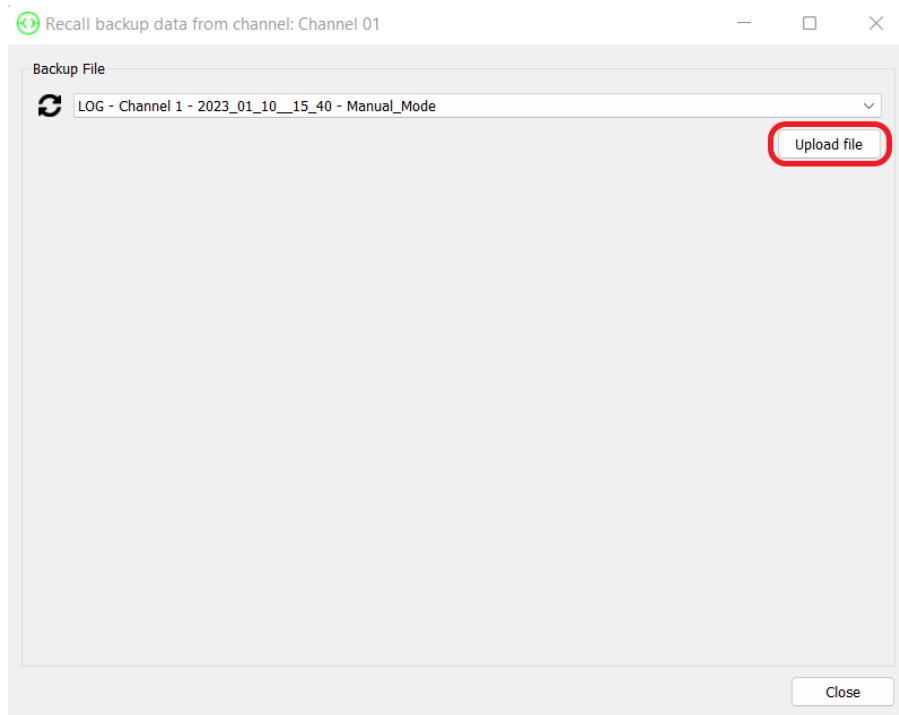

Figure 116: Recovering Chart Data - Recall backup data window & upload file button
5. In the 'Recall backup data' window that appeared, choose the cycle you need to recover from the drop-down list and click the 'Upload File' button highlighted in Figure 116 below to start downloading the cycle data from the controller.